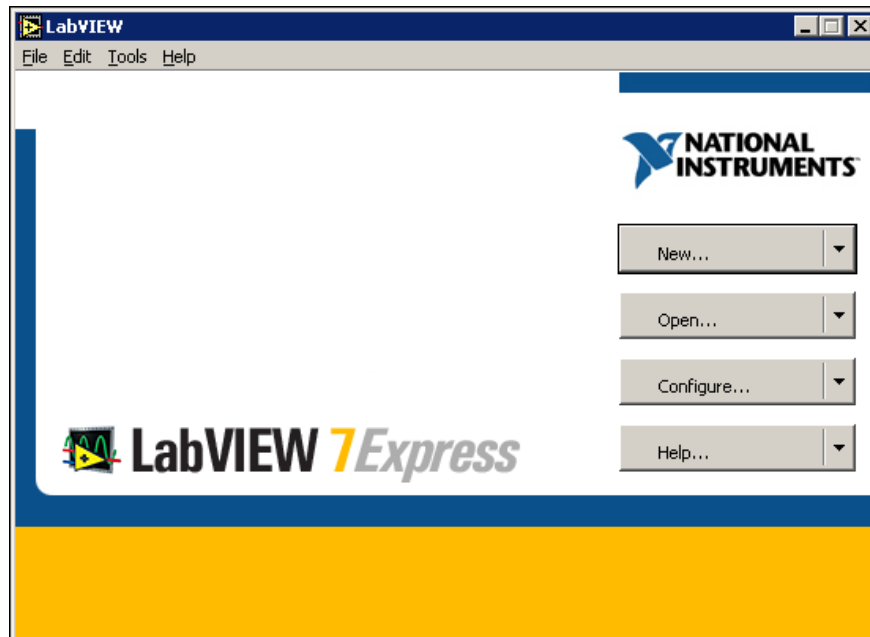

Figure 2.18
2. In the LabVIEW dialog box that appears, shown in Figure 2.18, click the **New** button to display the **New** dialog box.